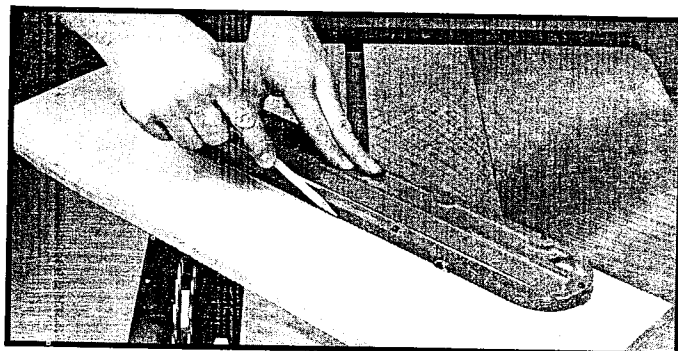

Fig. 6
1. Using the regular table insert as a template Fig. 6, trace its shape on a piece of **hard wood** that is 9/16" thick as shown.